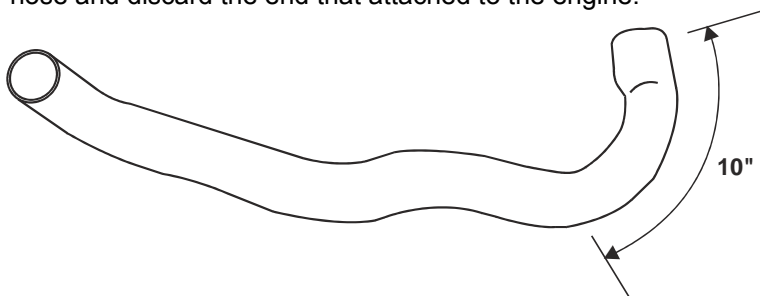

Figure 2.5
- ☐ Measure 10 inches from the engine end of the lower radiator hose around the longest side of the bend (Figure 2.5). Cut the hose and discard the end that attached to the engine.